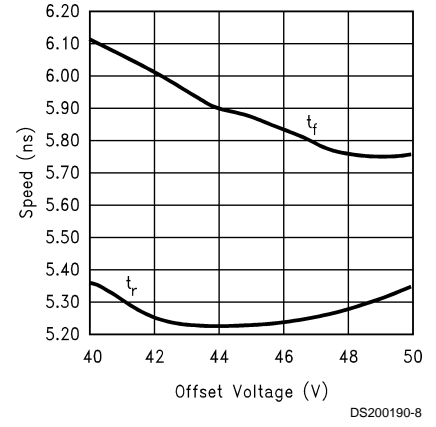

FIGURE 7. Speed vs Offset
*Figure 7* shows the variation in rise and fall times when the output offset of the device is varied from 40 to 50  $V_{DC}$ . The rise time increases less than 0.20nsec from its fastest point near 45V. The fall time becomes faster as the offset voltage increases, but the 45V offset is only 0.1nsec slower than the fastest fall time.